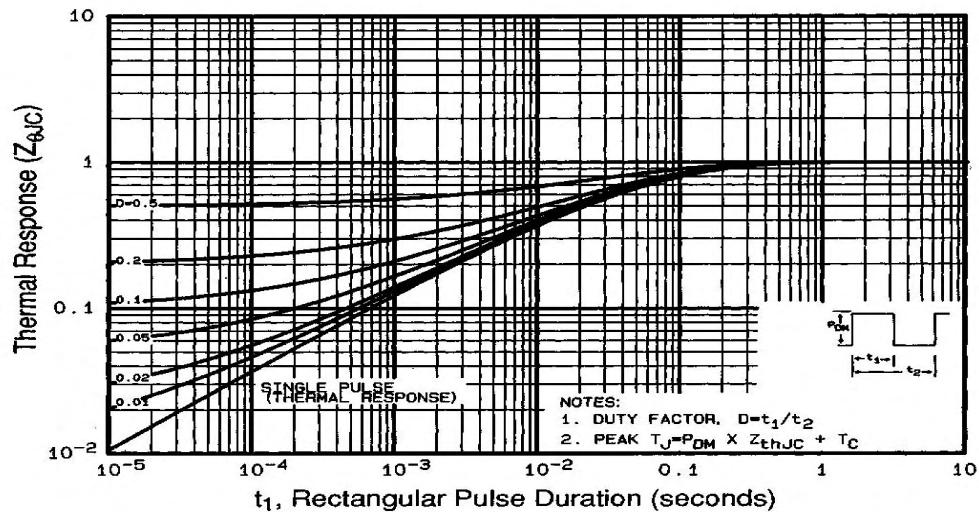

Fig 11. Maximum Effective Transient Thermal Impedance, Junction-to-Case
① Repetitive rating; pulse width limited by max. junction temperature (See Figure 11)
③ $I_{SD} \leq 10A$, $di/dt \leq 120A/\mu s$, $V_{DD} \leq V_{(BR)DSS}$, $T_J \leq 150^\circ\text{C}$